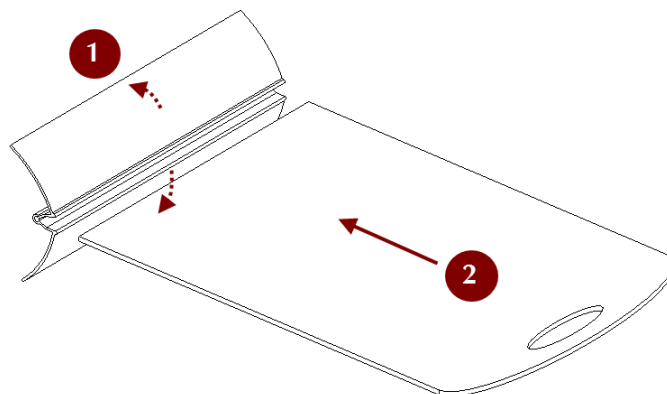

Figure 180: Assembling the rig.
3. Insert the board into the slot, as Figure 180 shows.